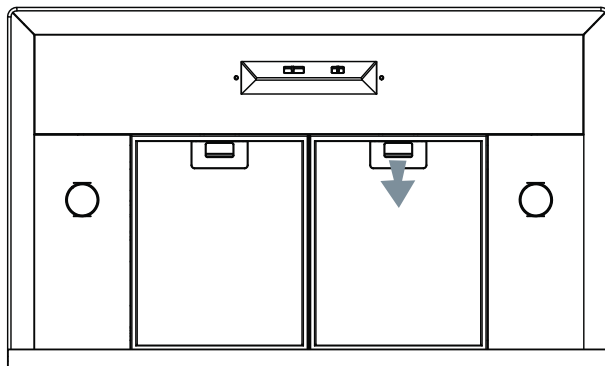
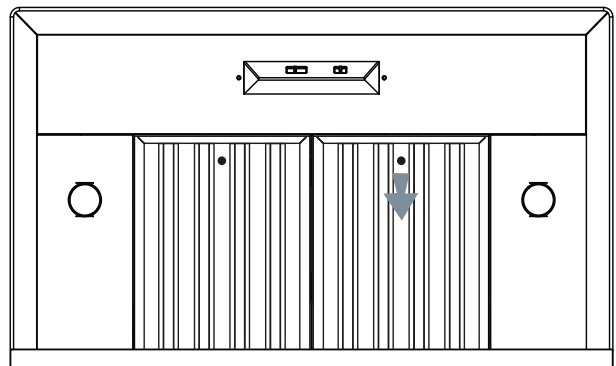

Fig 4
Fig 5
**Removing Mesh (Fig 4) & Baffle Filters (Fig 5)**